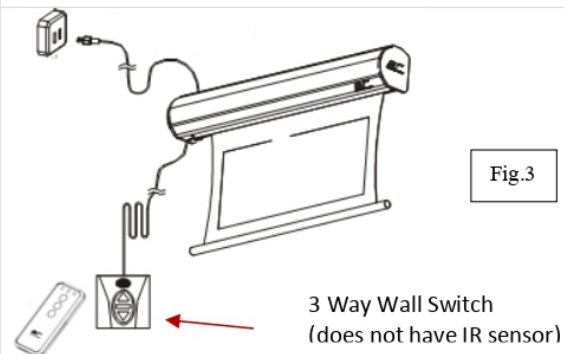

Fig.3
4. **3-Way Wall Switch (Item C, Fig 3):** The 3-way wall switch is a wall mounted control box with an up/stop/down button. It plugs directly into the screen's RJ-45 input.